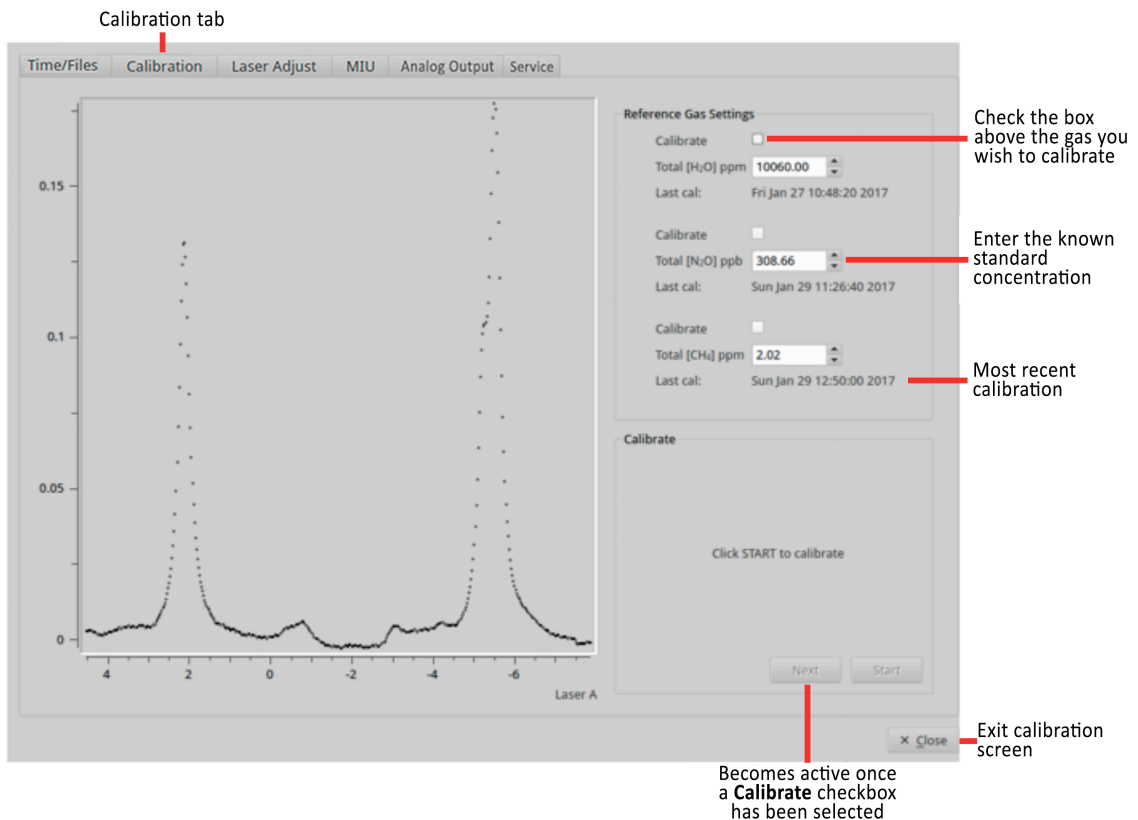

Figure 31: Calibration Setup Screen
2. Select the **Calibration tab** at the top of the screen to enter the *Calibration* menu. (Figure 31)